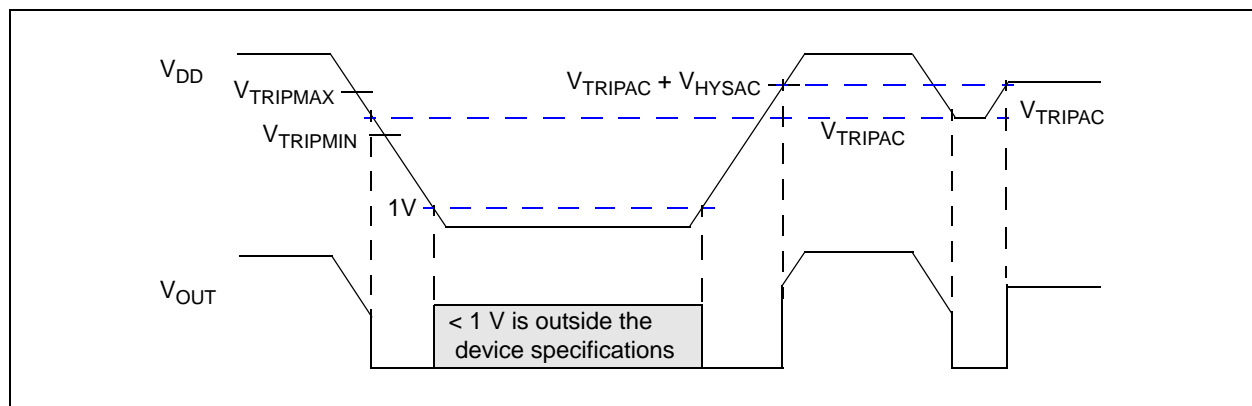

**FIGURE 4-1:** Typical Application Circuit.
**Note:** Unless otherwise indicated, all limits are specified for  $V_{DD} = 1V$  to  $5.5V$ ,  $R_{PU} = 100\text{ k}\Omega$  (only **MCP111**; see **Figure 4-1**),  $T_A = -40^\circ\text{C}$  to  $+125^\circ\text{C}$ .
**Note:** Unless otherwise indicated, all limits are specified for  $V_{DD} = 1V$  to  $5.5V$ ,  $R_{PU} = 100\text{ k}\Omega$  (only MCP111; see Figure 4-1),  $T_A = -40^\circ\text{C}$  to  $+125^\circ\text{C}$ .
For many of today's microcontroller applications, care must be taken to prevent low-power conditions that can cause many different system problems. The most common causes is a brown-out condition, where the system supply drops below the operating level momentarily. The second most common cause is when a slowly decaying power supply causes the microcontroller to begin executing instructions without sufficient voltage to sustain SRAM, thus producing indeterminate results. Figure 4-1 shows a typical application circuit.
A 0.1  $\mu\text{F}$  bypass capacitor, mounted as close as possible to the  $V_{DD}$  pin, provides additional transient immunity (refer to Figure 4-1).